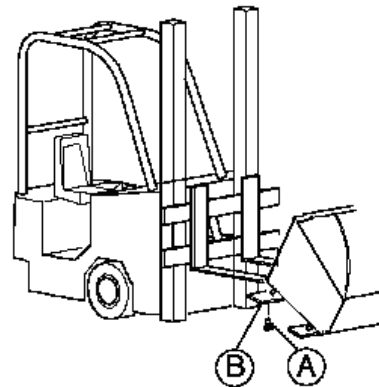

fig. 2
- Unscrew the bolts which hold the rails to the bottom frame structure (fig.2 pos.A) and remove the rails from the supporting structure (fig.2 pos.B).